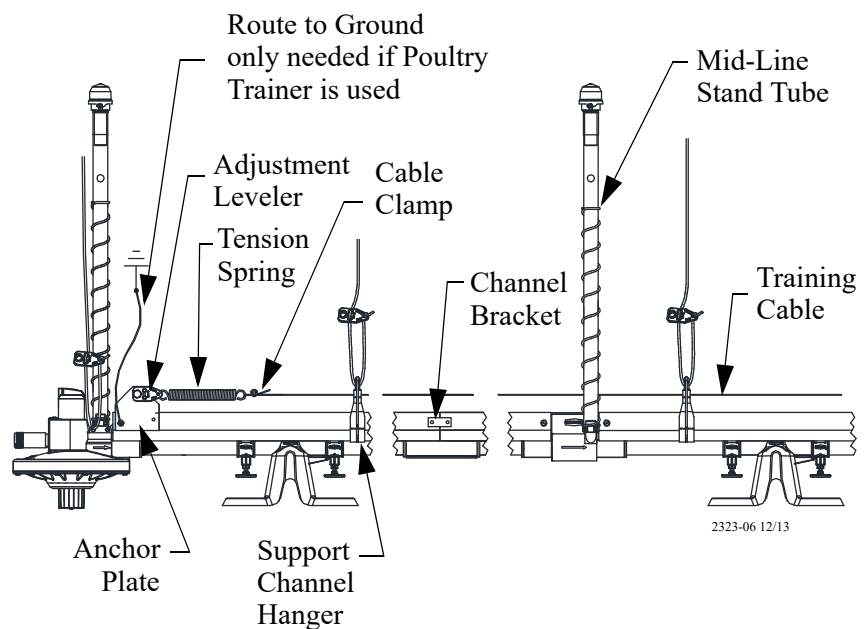

Figure 35. Anti-Roost Components
1. Make certain that an anchor plate with adjustment leveler is installed at the beginning and end of each anti-roost line. See **Figure 35**.
- Note: Make sure that the support channel is attached to a ground (to insure proper operation of the poultry trainer). It will be necessary to install a jumper wire at stand tube, inlet assemblies, etc., to insure the ground circuit. See **Figure 35**.